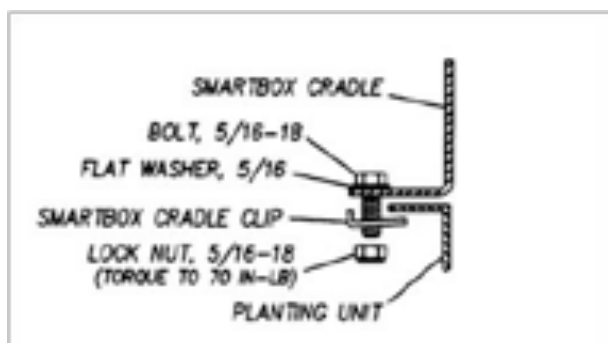

Figure 3b
6. If cotter pins do not hold cradle securely in place, use SmartBox® cradle clips as a spacer between the frame and pins; or secure the cradle to the frame using the SmartBox® cradle clips and fasteners (see figure 3b).